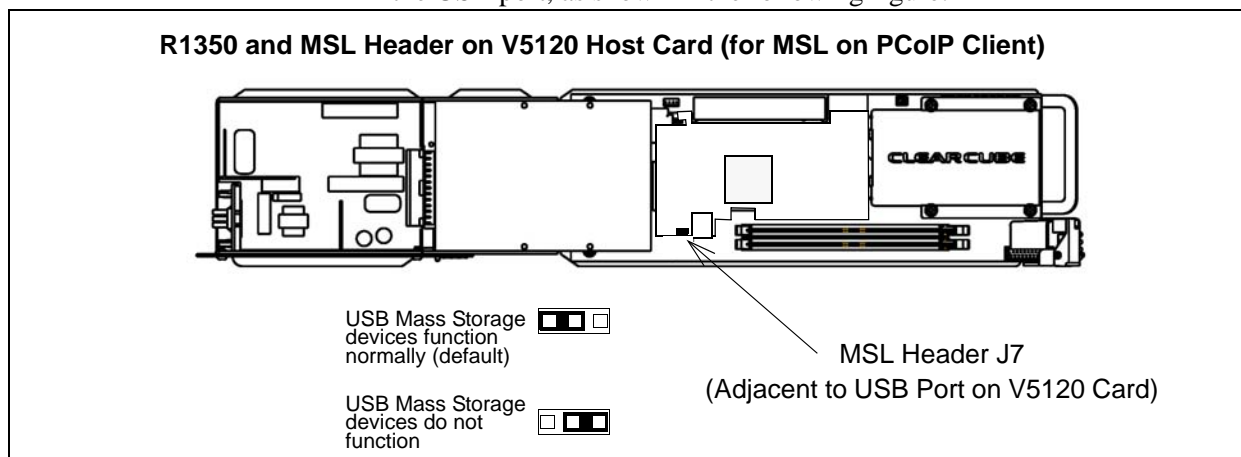

Figure 37 MSL Header on V5120 Card in R1350 Blade (MSL Header on Motherboard Is Unsupported in This Configuration)
- To enable MSL on an R1350 blade with a V5120 Host card, use MSL header J7 located on the V5120 Host card (shown in Figure 37 on page 72). This configuration does not support MSL through the JP6 header on the motherboard.